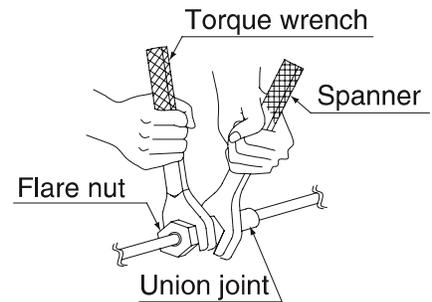

Fig. 14
- When connecting the pipings to the air conditioner, make sure to use a spanner and a torque wrench as shown in **Fig. 14**.